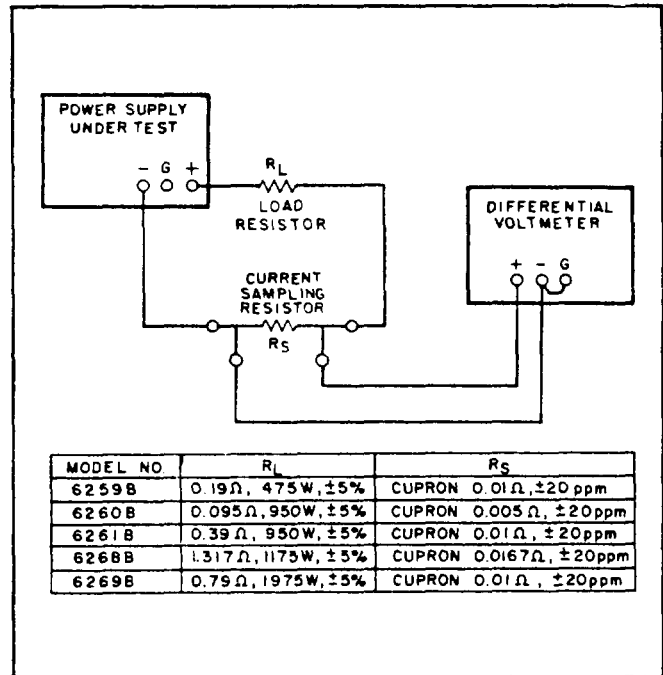

Figure 5-8. Constant Current Load Regulation Test Setup
- Connect test setup shown in Figure 5-8.
- Utilize test setup shown in Figure 5-8.